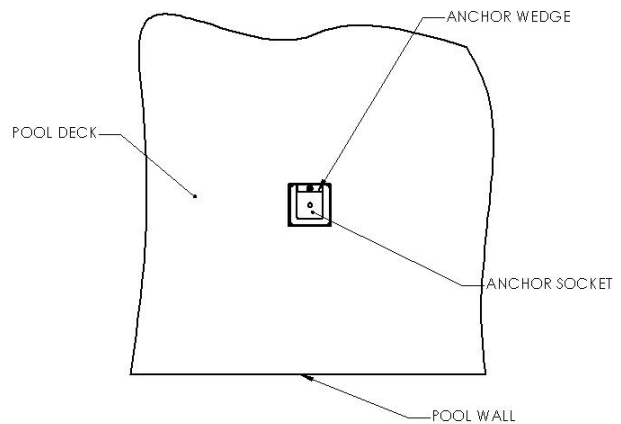

FIGURE 7
1. The wedge anchor should be installed in the orientation shown in **FIGURE 7**. As shown in **FIGURE 7**, the side of the anchor that contains the wedge should be oriented such that it is parallel to, and farthest away from, the pool wall.